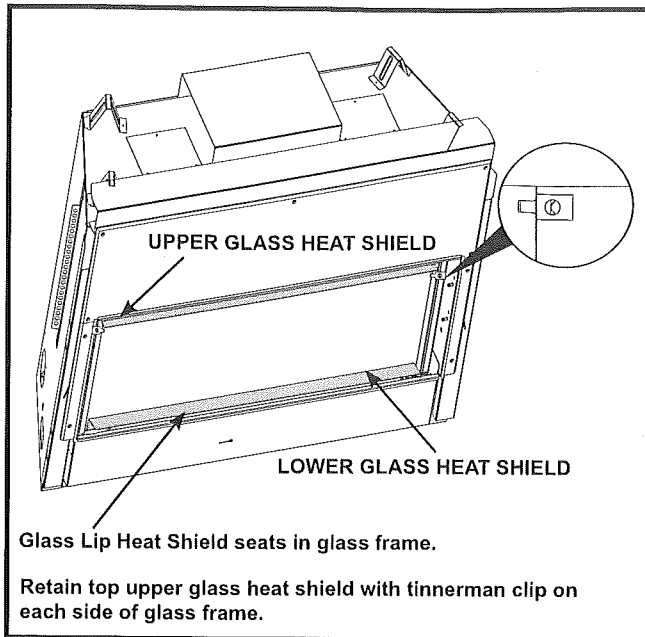

Figure 7. Glass and Heat Shield
1. Install upper and lower glass heat shields in glass frame assembly as shown in Figure 7.